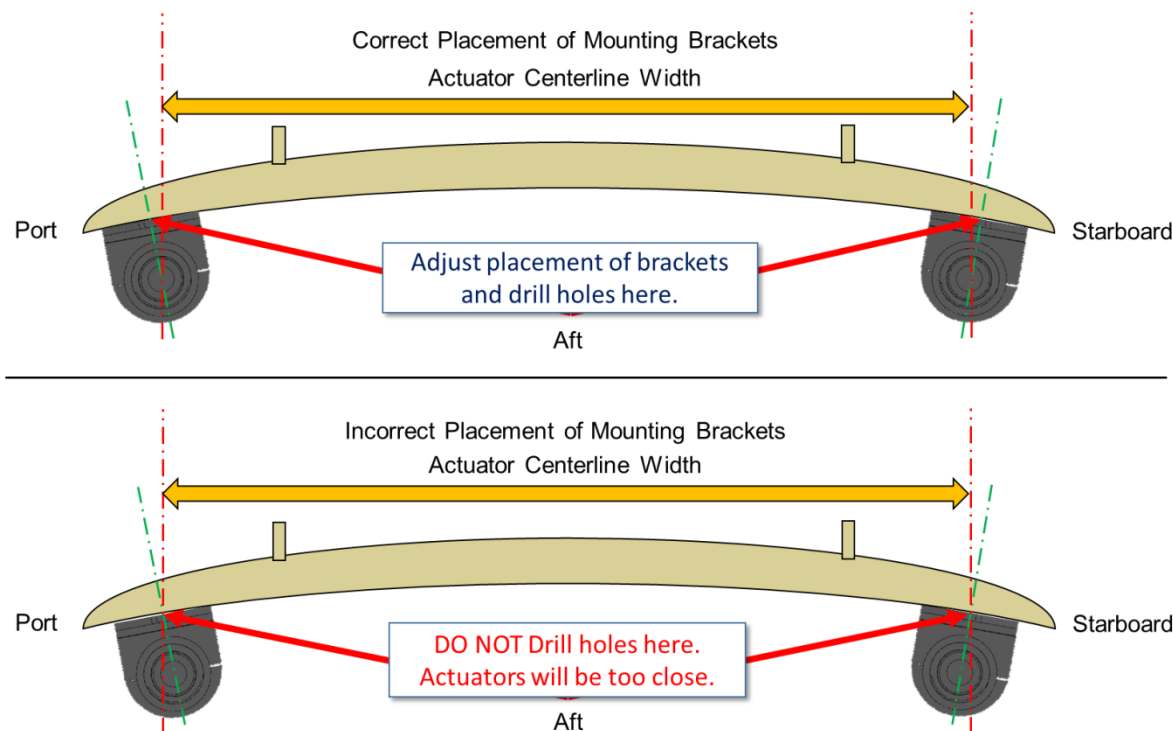

Figure 7c.: Underside Mount Curved
- ii. For bottom mount with a curvature, mounting clamps will be mounted to the outside of the actuator centerline and will need to be drilled at an angle. (Depicted by the green centerlines). (See Figure 7c.)